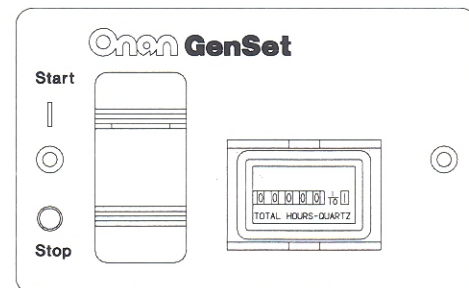

FIGURE 19. REMOTE SWITCH / HOUR METER
- Switch/status lamp and hour meter (Figure 19).